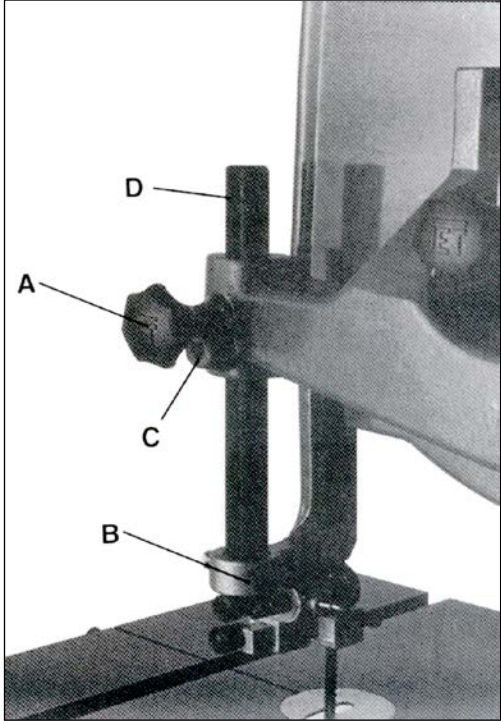

Figure 2
9. Loosen the two hex cap screws holding the metal blade guard assembly to the upper blade guide bracket (B, fig. 2) and remove the blade guard.
10. Remove the upper blade guide bracket (B, Fig. 2) from the guide post (D, Fig. 2).
11. Loosen the guide post lock knob (A, Fig. 2). Loosen, but do not remove set screw (C, Fig. 2) to release tension on the guide post.
12. Tighten set screw (C, Fig. 2).